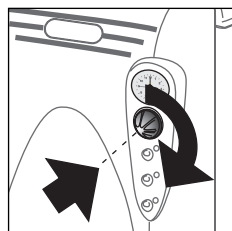

fig. 1
- Adjust the exact time by pressing and at the same time turning the knob clockwise (fig. 1).